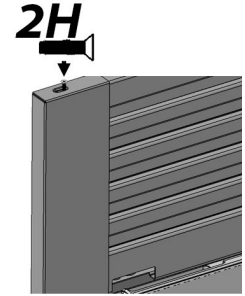

Fig. 25
- b. Fasten 2H screws to the top trim (Fig. 25) and repeat for the right hand side.